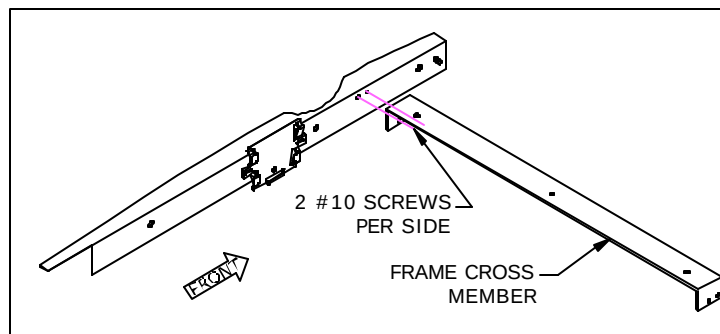

Figure 9.
4. Install the frame cross member. *See Figure 9.*